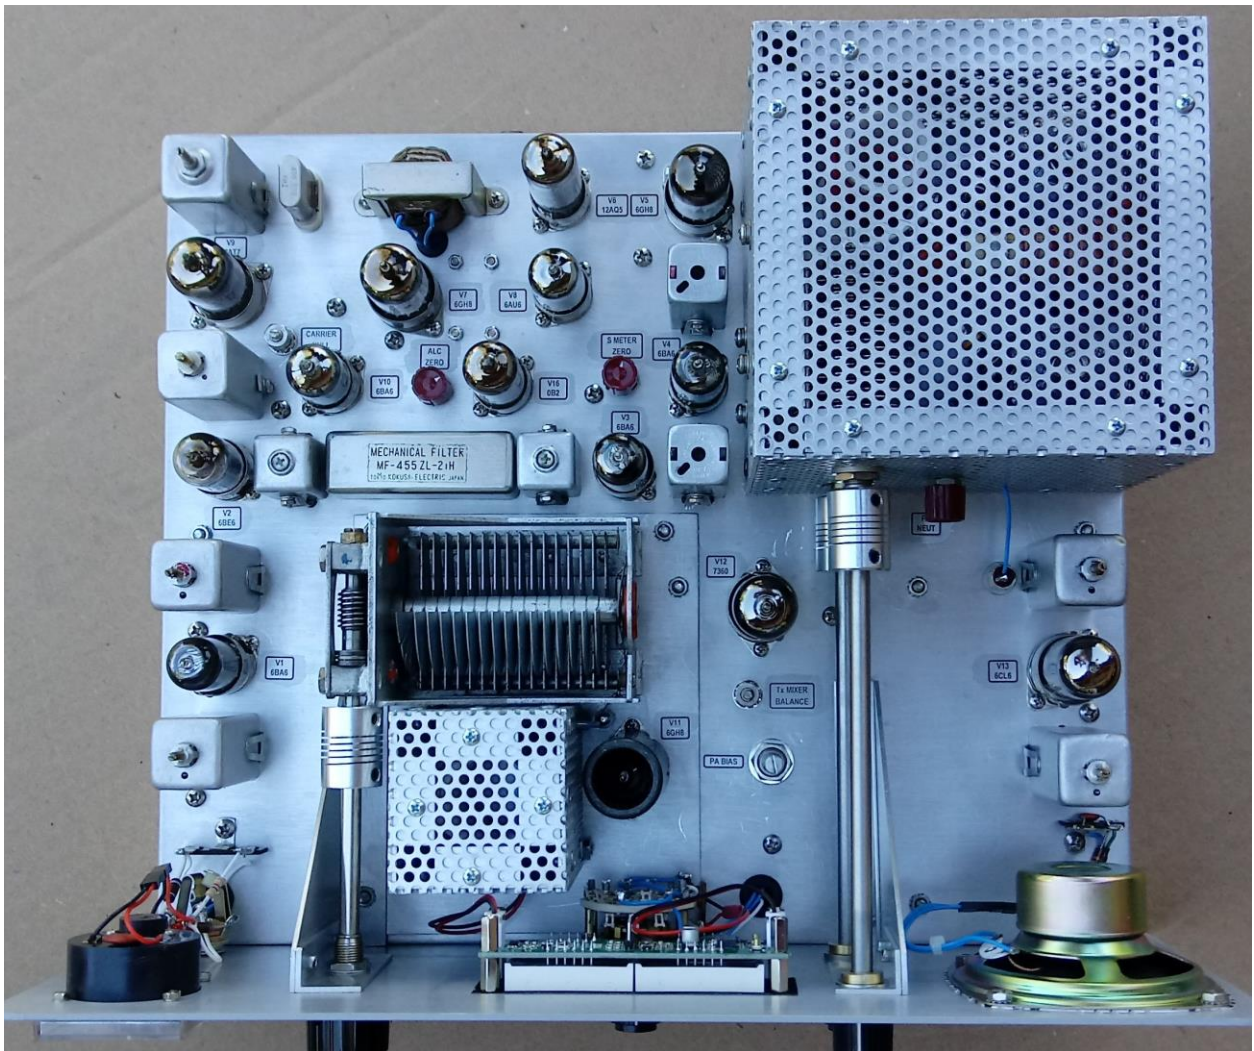
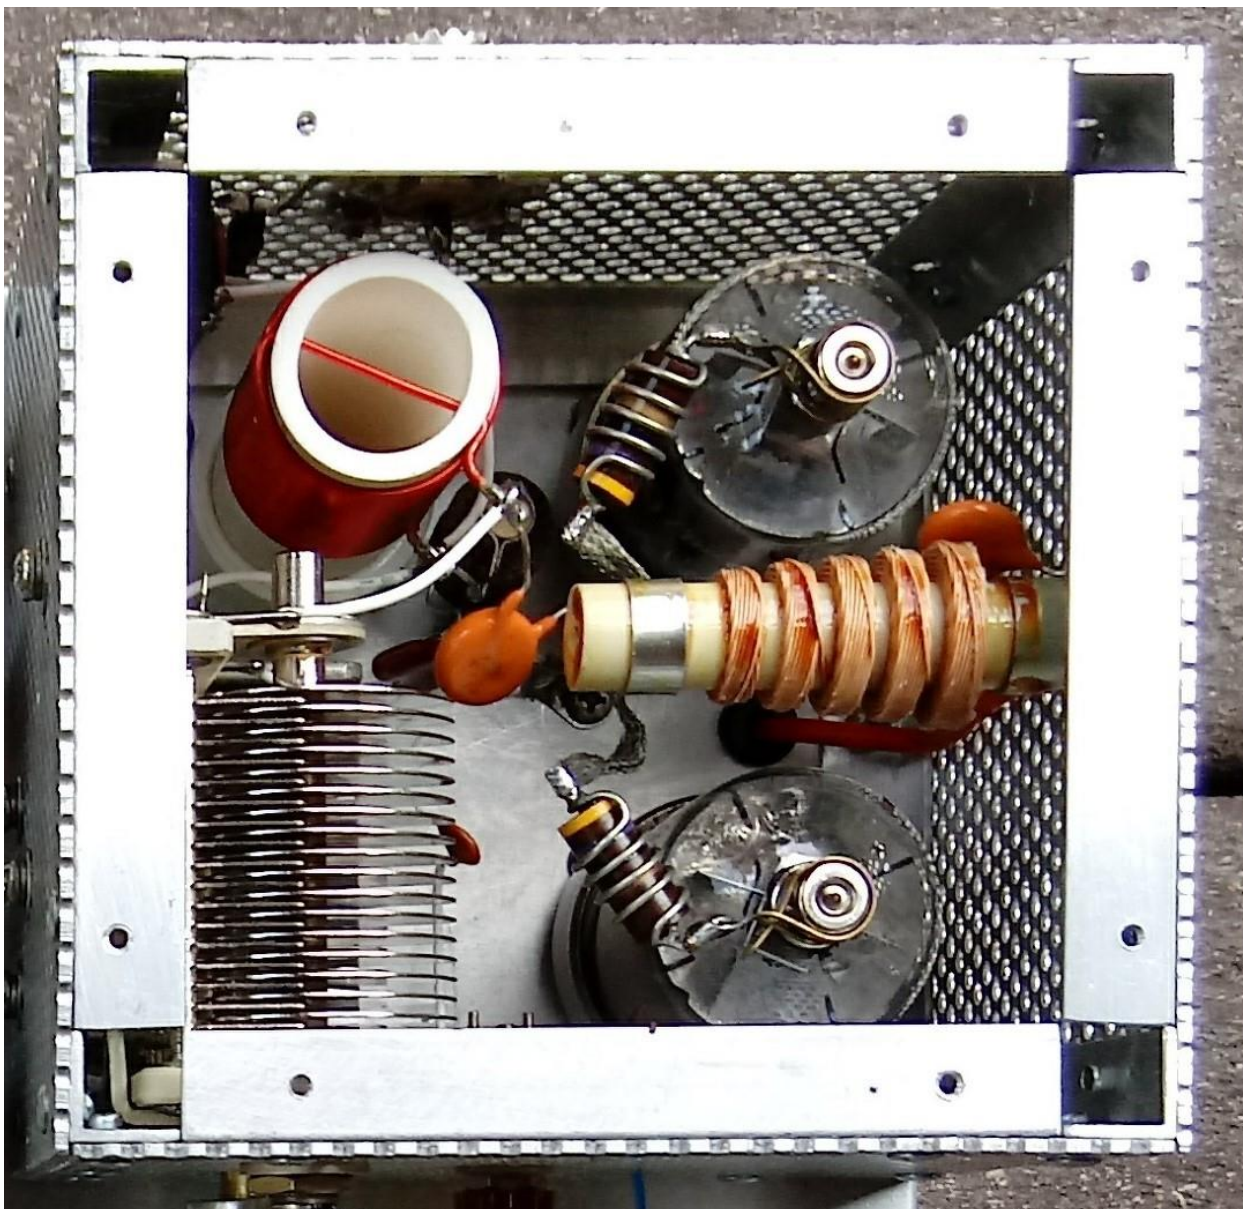

Figure 3: Transceiver Top View
Figure 5: Interior of PA Cage
Figures 3 and 4 show the chassis top and bottom respectively. The cabinet as supplied new comes with side rails for sliding in the chassis. One of these was missing on my cabinet, so I fabricated new rails out of .062 inch angle stock. The chassis is mounted in the cabinet by four 6-32 screws that thread into PEM type nuts pressed into in the chassis corners.
The chassis is made from .050 inch soft aluminum, which is not sturdy enough for a SSB radio that requires a mechanically stable analog VFO. So a sheet of .062 tempered aluminum was added under the VFO components as can be seen in Figure 3. The VFO coil is mounted to this plate inside a shield made from .062 perforated sheet and angle stock. The power amplifier (PA) components at the rear are housed in a 5 inch cube made the same way. It is shown in Figure 5. To further beef up things topside, angle brackets run from the front panel to the chassis to prevent flexing.